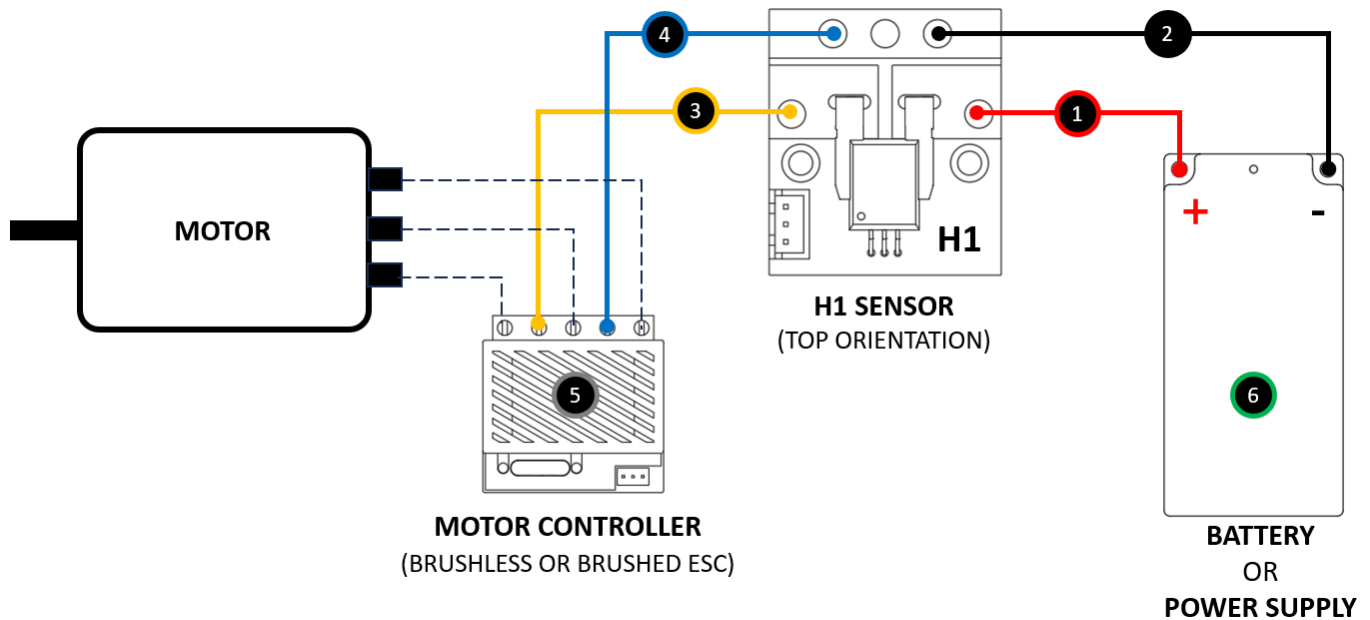

Figure 4: H1 Sensor Soldering Diagram
Warranty voided if it's not installed according to Figure 4.
1. Make sure the battery is connected to the sensor (see Figure 4) but the motor controller (ESC) is turned-off.
9. Make sure the battery is connected to the sensor (see Figure 4) but the motor controller (ESC) is turned-off.